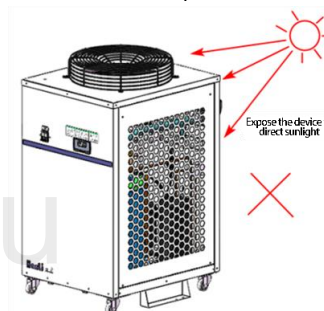

Figure 5 Equipment Installation Environment Requirements
- The product must not be installed in harsh environments such as corrosive and flammable gases, heavy dust, oil mist, metal and other conductive dust, high temperature and humidity, strong magnetic fields, direct sunlight, etc. , as shown in Figure 5 .